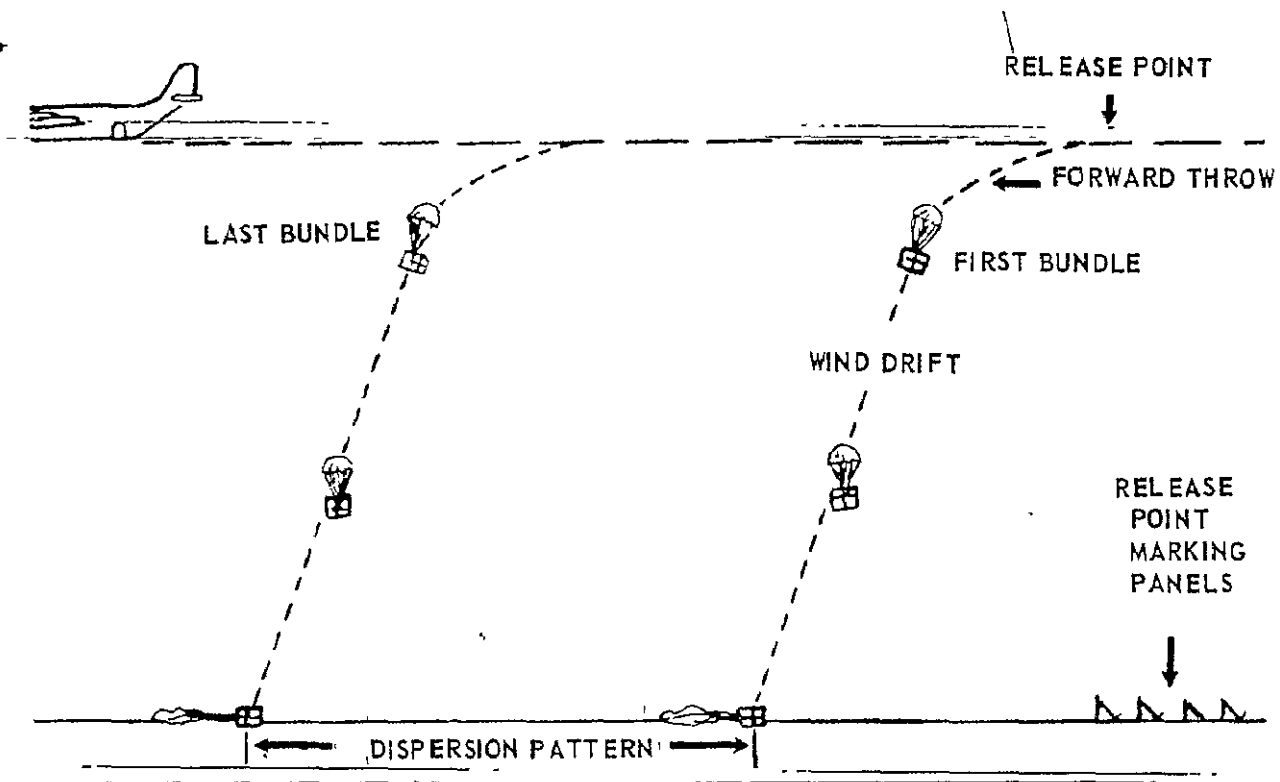

Figure 23. Computation of dispersion.
1. Dispersion occurs when two or more personnel or containers are released consecutively from an aircraft in flight. The long axis of the landing pattern is usually parallel to the direction of flight (figure 23).
(a) - Dispersion. Dispersion is the length of the pattern formed by the exit of the parachutists or cargo containers (figure 23). The desired point of impact for the first parachutist/container depends upon the calculated dispersion.